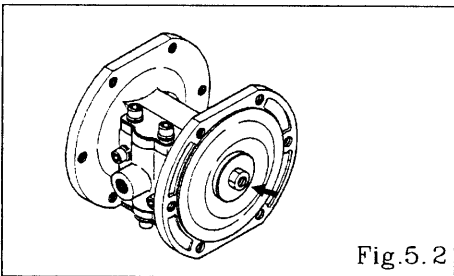

Fig.5.2
- Remove the center disk from one side. [Fig.5.2]